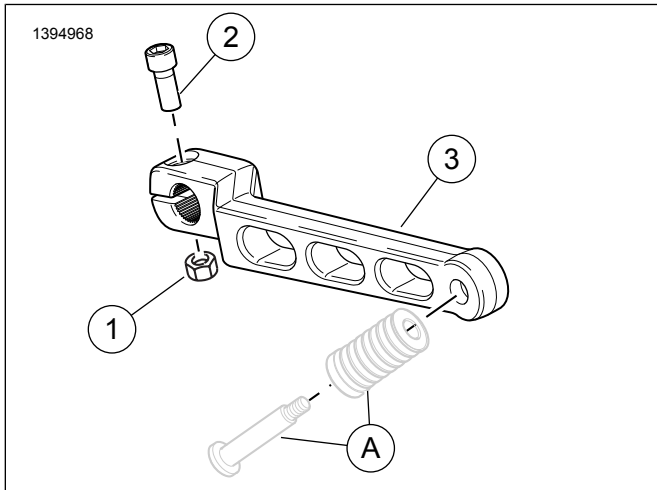

Figure 2. Service Parts: Foot Shift Lever Kit
- See Figure 2. Transfer OE shifter peg (A) to **new** lever. See service manual.
- Install shift lever (3) aligning to same angle noted before removal.
- Install screw (2).
- Install locknut (1). Tighten to torque value shown in service manual.
- Check to make sure shift levers (3) have enough clearance for proper operation.